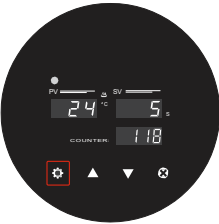

Fig. 1
1. Press Set (⚙️) button on the control panel (Fig. 1) to go to the temperature setting mode for the heat platen.